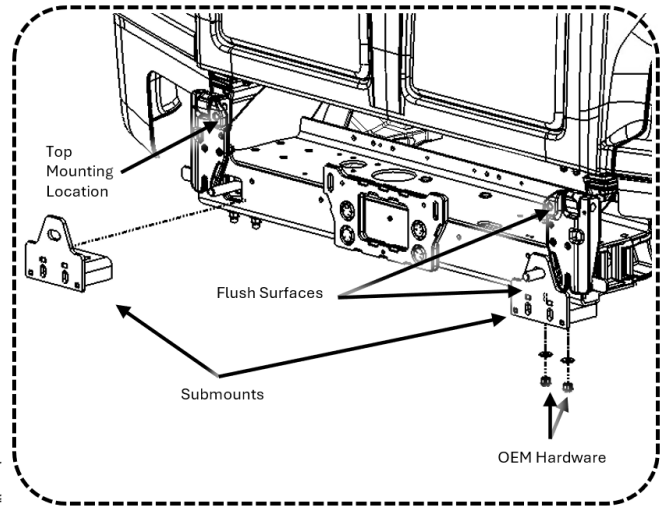

Figure 2d: Submount Installation
4. Secure the Submounts to the truck using OEM hardware and ensure the Submounts are flush to the truck's top mounting locations; see figure 2d.